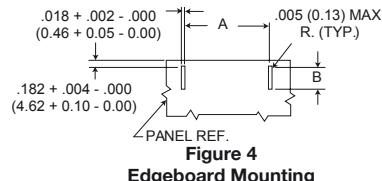

Figure 4
3. Figure 4 is for edge board mounting bracket or edgeboard clip assembly. The $.184 + .002$ ($.46 + .05$) dimension locates the MD socket insulator flush with the end of the board.